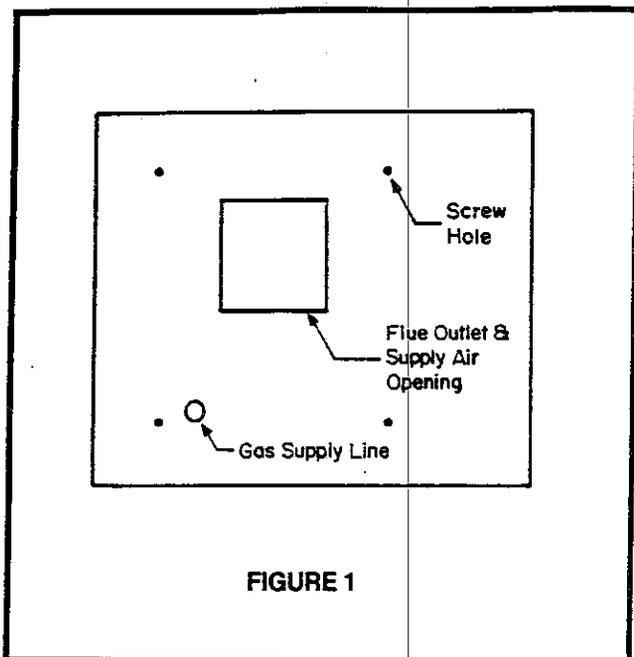

FIGURE 1
b. Position and smooth out full-size paper template on wall where unit is to be installed, with mounting hole locations directly over wall studs. Use carpenter's level to make certain template itself is exactly level, and fasten template to wall with tape or thumb tacks, Recheck level and position of template (Figure 1).